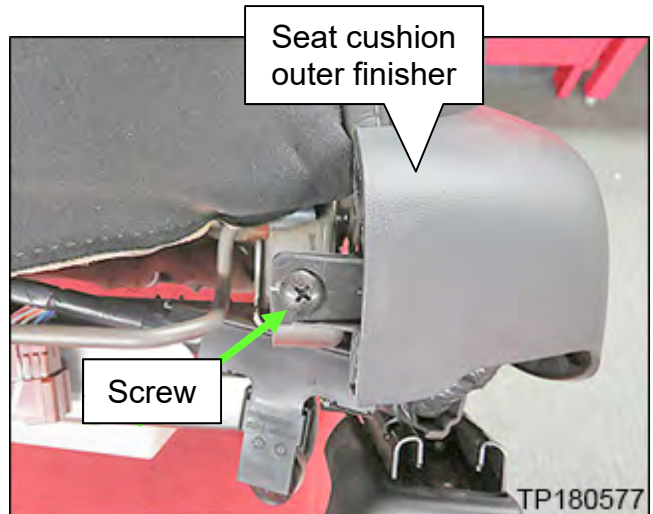

Figure 3
**NOTE:** The screw is shown on the left hand side for the driver's seat Figure 3. Passenger seats will have this screw on the right hand side.